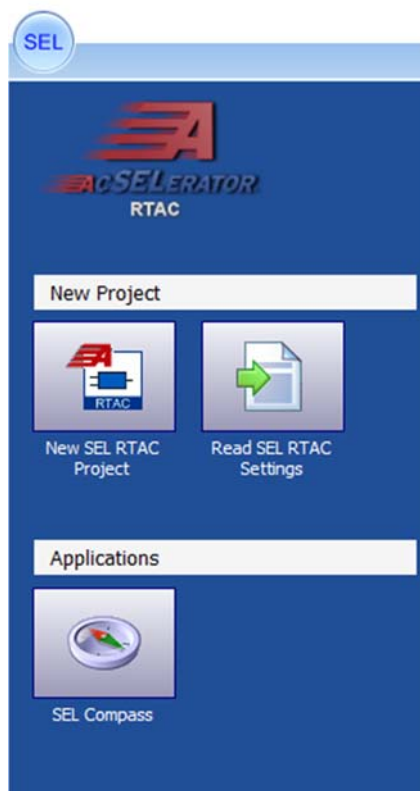

Figure 88: Create New Project
90. Click “New SEL RTAC Project” to create a new project (Figure 88)